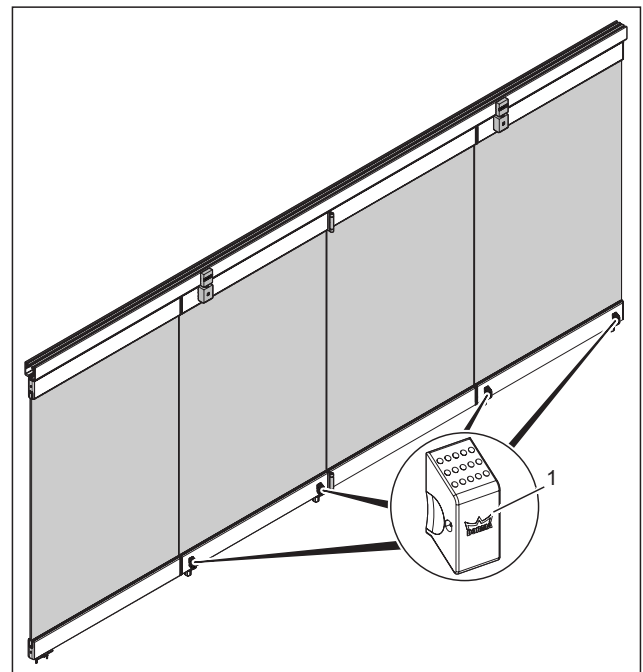

Fig. 26 Checking the face-mounted slide bolts
1. Check the face-mounted slide bolts (Fig. 26/1) for ease of operation. If necessary, disassemble and clean as written below.